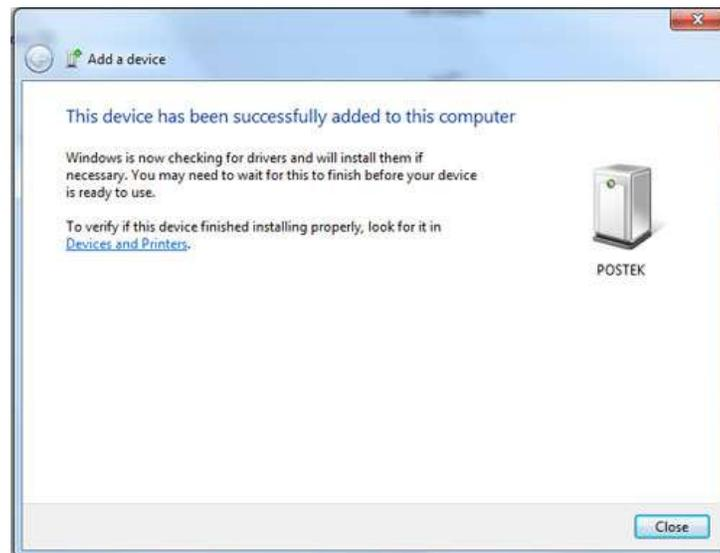

Figure 3-6
3. The POSTEK V8i Bluetooth device has now been added successfully, as shown in Figure 3-6.